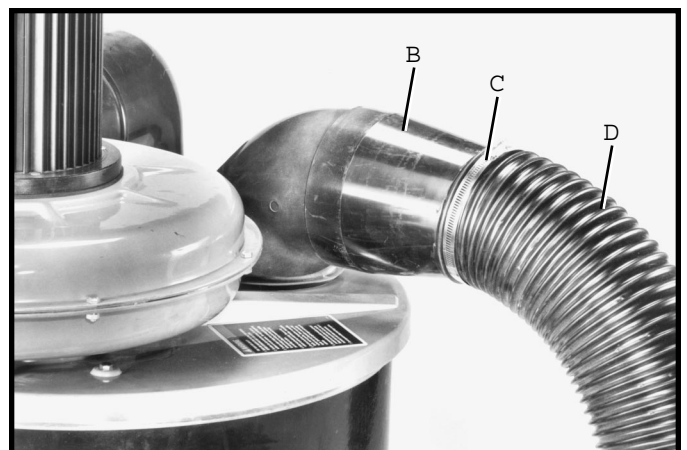

Fig. 19
13. Assemble hose clamp (C) Fig. 19, over one end of hose (D). Assemble hose (D) onto reducer (B) and tighten clamp (C) to hold hose onto reducer.